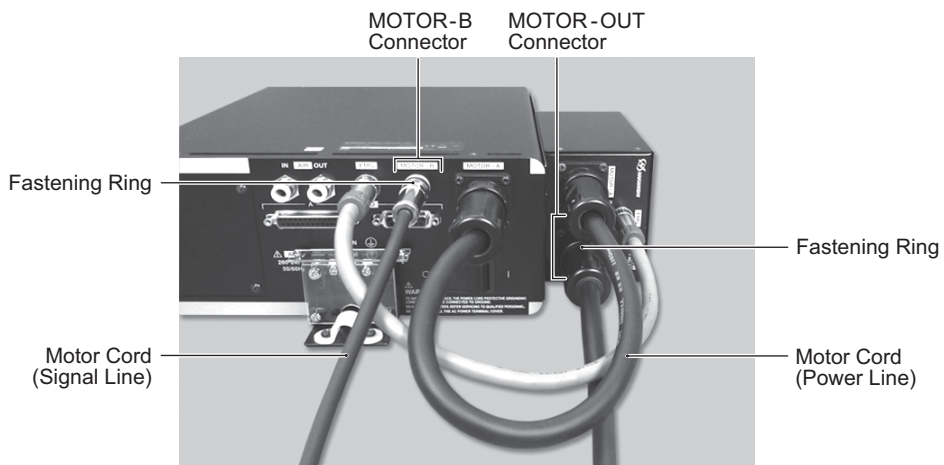

Fig. 8
- ⑤ Insert the Motor Cord Plug (Motor Power Line) into the MOTOR-OUT Connector of the SAFETY RELAY BOX, Secure the Fastening Ring turn the clockwise (Fig. 8). Insert the Motor Cord Plug (Motor Signal Line) into the MOTOR-B Connector of the CONTROLLER, Secure the Fastening Ring turn the clockwise (Fig. 8).